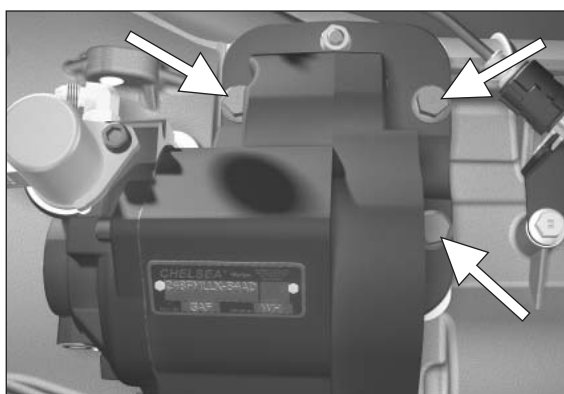

Figure 55
13. **249** - Next, install the three remaining hex capscrews in the remaining holes (**Fig. 55**).
**249V** - Next, install the two remaining locking nuts on the top and middle right side studs (**Fig. 55**).